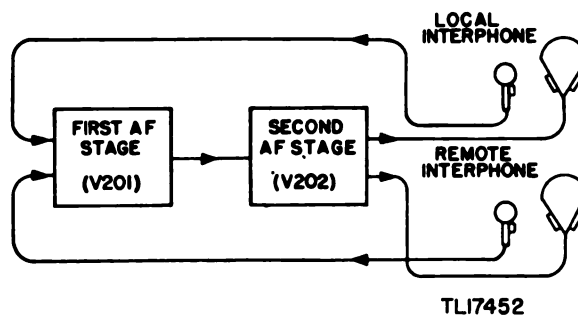

Figure 2. Interphone Amplifier BC-605-(*), block diagram.
2. Condensed Circuit Analysis (fig. 2)